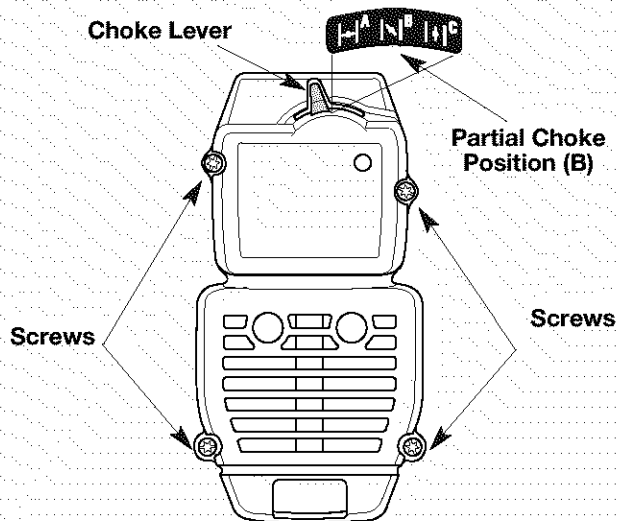

Fig. 23
1. Place the choke lever in the **PARTIAL** choke position (B).
- NOTE:** The choke lever must be in the **PARTIAL** choke position (B) (Fig. 23) to remove the air filter/muffler cover.
2. Remove the four (4) screws securing the air filter/muffler cover (Fig. 23). Use a flat blade or T-20 Torx bit screwdriver.
NOTE: The choke lever must be in the **PARTIAL** choke position (**B**) (Fig. 23) to install the air filter/muffler cover.
2. Insert the four (4) screws into the holes in the air filter/muffler cover (Fig. 23) and tighten. Do not over tighten.